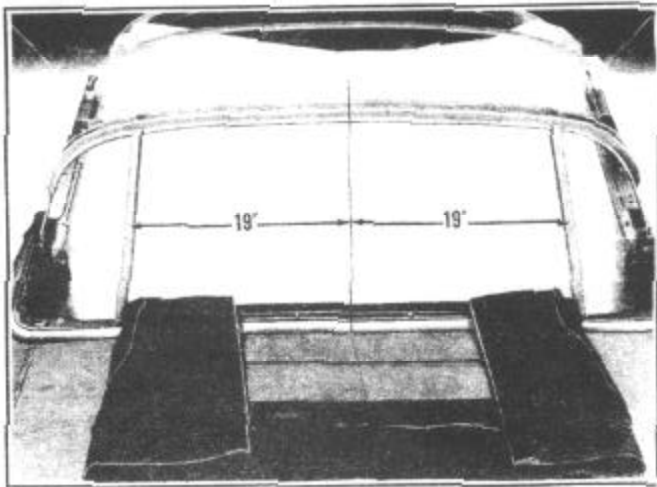

FIGURE 170
1. Install two rear curtain alignment gauges with the slotted ends engaging the rear bow and the tapered end (with the metal retaining strap on) braced against the rear belt line of the body, one on each side, 19" from center line of body, Figure 170.